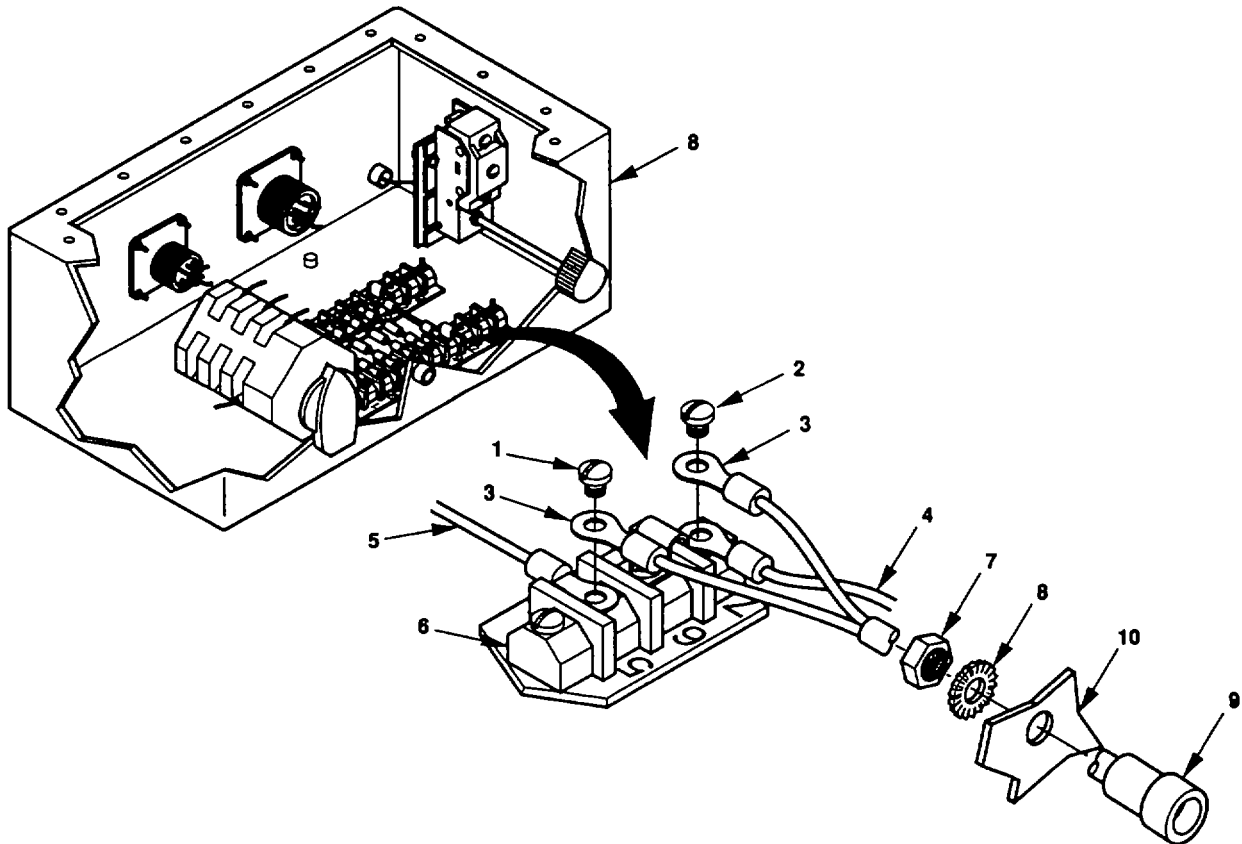

Figure 4-16. LED Assembly.
- (1) Remove screw (Figure 4-16, 1) from TB2-5 and screw (2) from TB2-7.
- (2) Tag and disconnect two electrical leads (3), wiring harness lead (4), and resistor lead (5) from terminal board, TB2, (6).
- (3) Remove nut (7), lock washer (8), and LED assembly (9).
**b. Test.** Test LED assembly (9) for continuity.